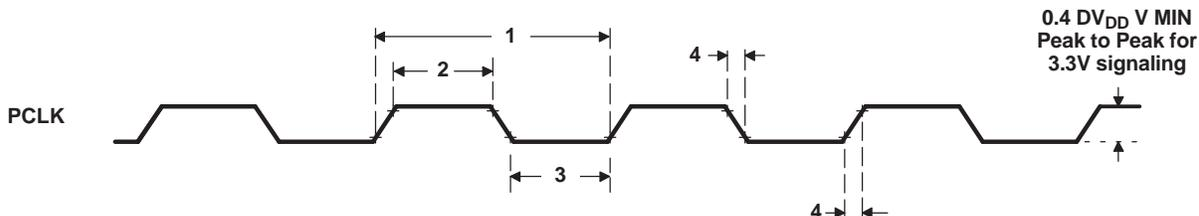

Figure 5-36. PCLK Timing
5.11.1 Timing Requirements for PCLK (1) (2)(see Figure 5-36)